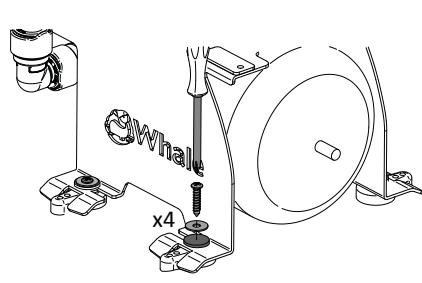
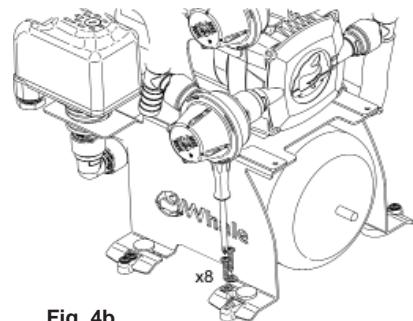

Fig. 4a
Fig. 4b
Step 3 Use stainless steel screws and washers to secure the kit to a solid surface. Four screws and washers can be used through the centre of the feet (see Fig. 4a) or 8 screws and washers as shown in Fig 4b.
Figure 4a and 4b Securing Kit